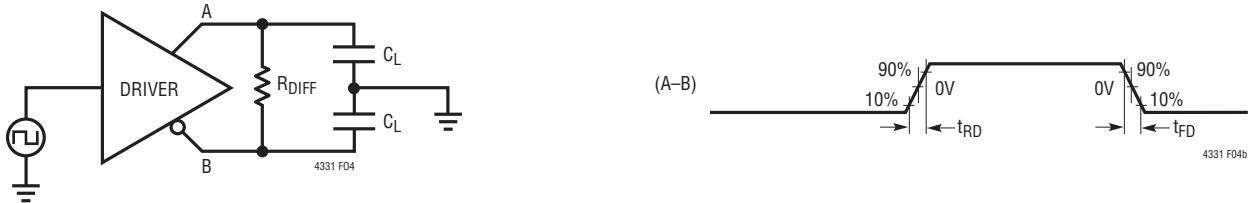

Figure 4. Driver Timing Measurement
- IEC 61000-4-2 Edition 2.0 2008-12 ESD Level 4:  $\pm 8\text{kV}$  contact (A or B to GND, direct discharge to bus pins with transceiver and protection circuit mounted on a test card with a low impedance ground discharge path from board GND to ESD gun return lead, per Figure 4 of the standard)